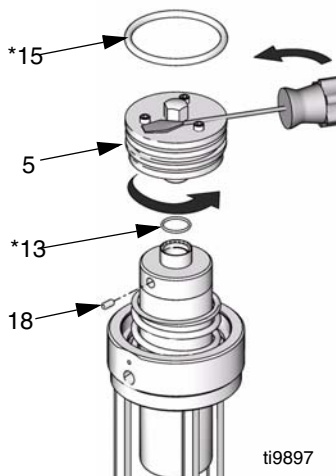
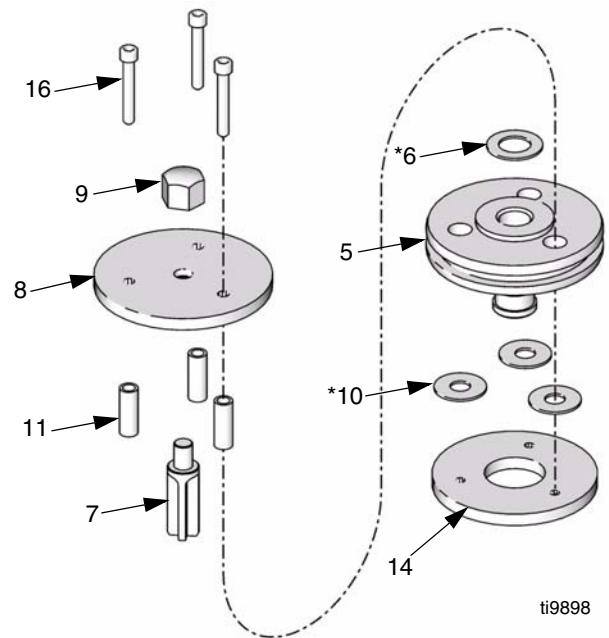

FIG. 11
FIG. 12
2. Loosen set screw (18) and unscrew air piston head (5). If necessary to assist turning, wedge a screwdriver blade between the screw heads (16) and the hex cap (9). Inspect o-rings (13* and 15*) for damage and replace if necessary. During reassembly, do not add thread lock paste to the piston head. Ensure o-ring (13*) is correctly positioned and not pinched. See FIG. 11.
3. Remove 3 screws (16) from top of air piston. Remove valve disk (8) and spacers (11). Remove washer (6*) from valve disk. Inspect all parts for damage. During reassembly, ensure spacers (11) do not pinch gaskets (10). See FIG. 12.
See **Air Motor Repair**, step 2 and step 3 (FIG. 11 and FIG. 12) for special notes on reassembly.